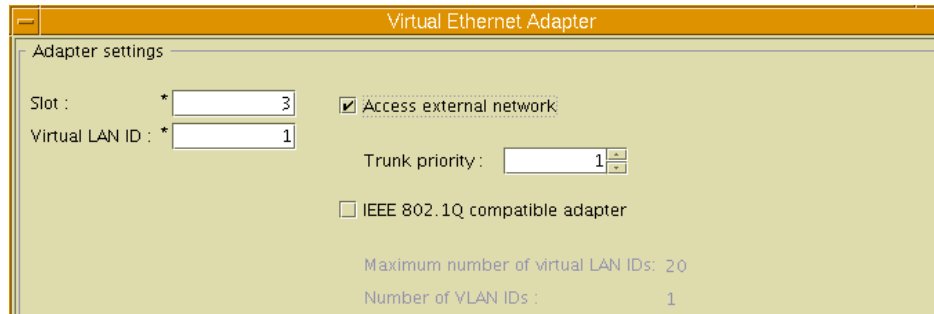

Figure 4-24 Key in the Virtual Ethernet Slot ID and the VLAN ID
5. Enter the Virtual SCSI slot ID and the VLAN ID. If you need to create a Shared Ethernet adapter to allow the partition to access the external network, you need to check on the “Access external network”. See Figure 4-24 on page 384.